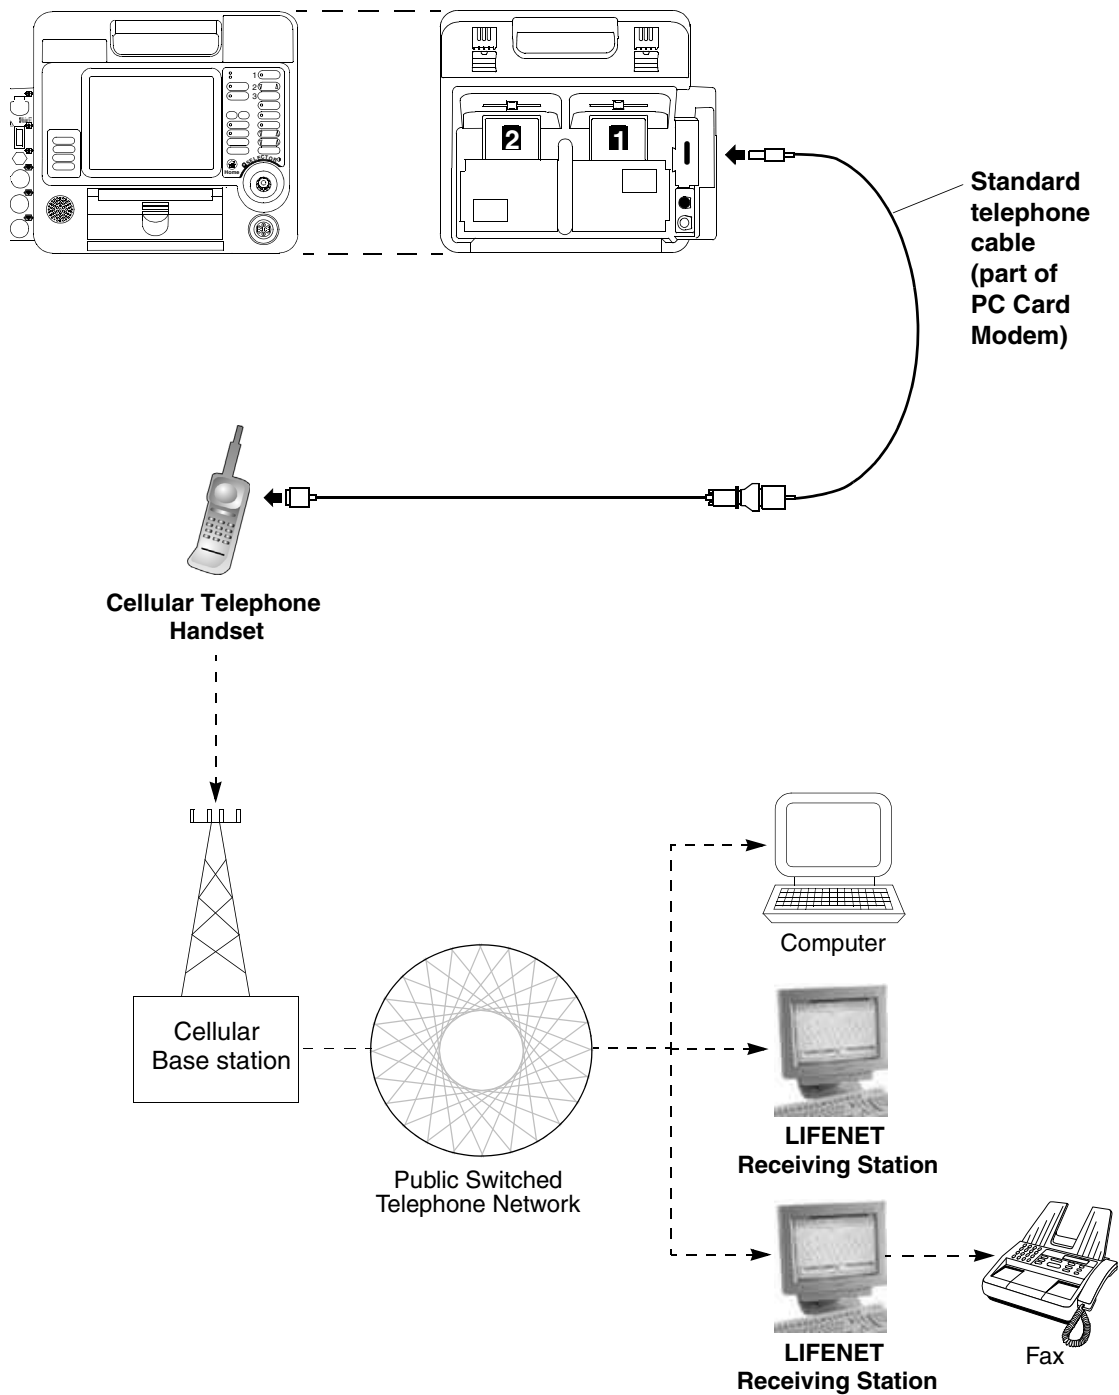

Figure 6-3 Equipment Connections for Internal Modem – Analog Cellular
- **Internal Cell** Transmit reports by analog cellular telephone using an internal PC Card modem. Requires the following for interconnection (see Figure 6-3):
Figure 6-3 shows you the equipment connection method for transmitting reports by analog cellular telephone using an internal PC Card modem. If you want to use an analog cellular telephone other than the recommended Motorola model, contact your Physio-Control sales or service representative to confirm compatibility. For international equipment connections, see Appendix F.